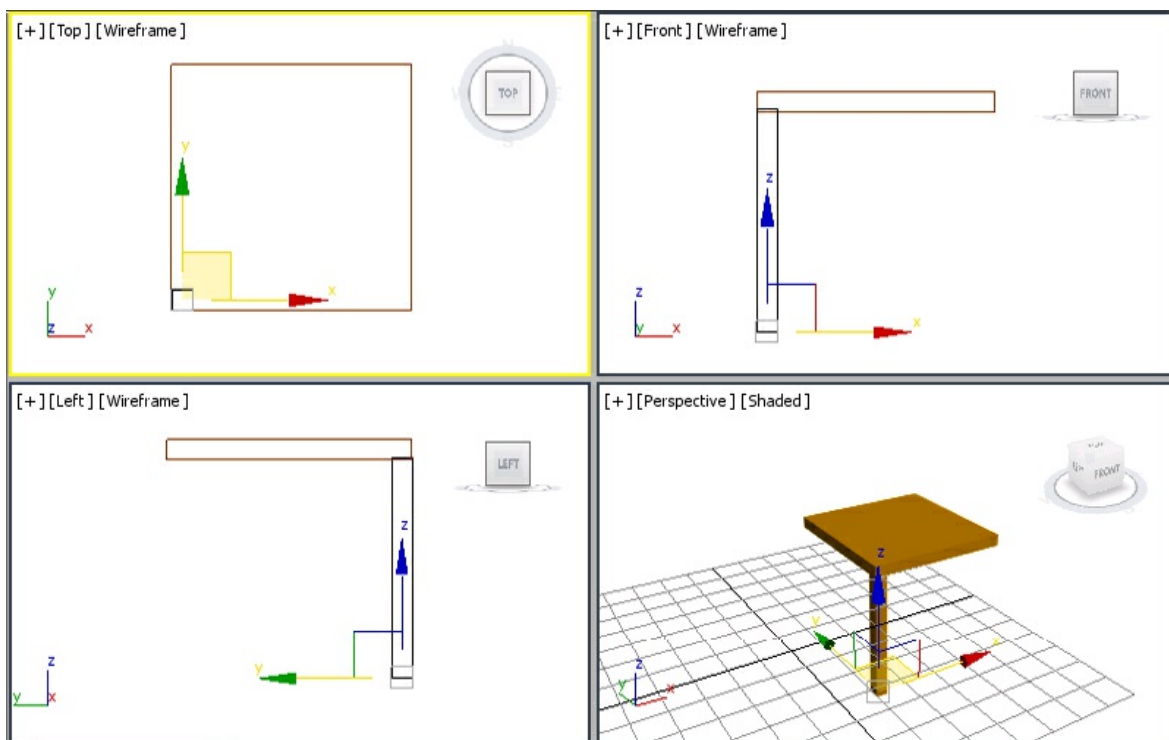

Figure 2-58 Alignment of leg01 with base
5. Rename the box as *leg01*. Next, align *leg01* with *base*, as shown in Figure 2-58.